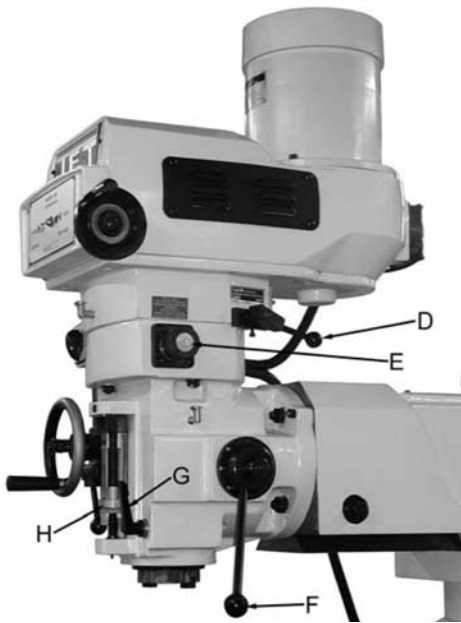

Figure 4
- D. **High-Neutral-Low Lever** (D, Fig. 4) - located on the right side of the head. The photo shows the lever in the low speed range. Push the lever in and rotate 90° clockwise for neutral. Rotate the lever another 90° for the high speed range.
- E. **Power Feed Transmission Engagement Knob** (E, Fig. 4) - located on right side of head. When pointer indicates towards the rear of the machine, power feed worm gear is engaged. To disengage power feed, turn so pointer indicates towards the front of the machine.
- F. **Quill Feed Handle** (F, Fig. 4) - located on right side of head. Rotate clockwise to lower spindle.
- G. **Quill Lock** (G, Fig. 4) - located on the right side of the head. Rotate the handle clockwise to lock the quill in a desired position. Rotate the handle counter-clockwise to release.
- H. **Micro Adjusting Nut** (H, Fig. 4), - located on the front of the head. Use for setting specific spindle depth. **Note:** One complete rotation of the micro nut equals 0.05".